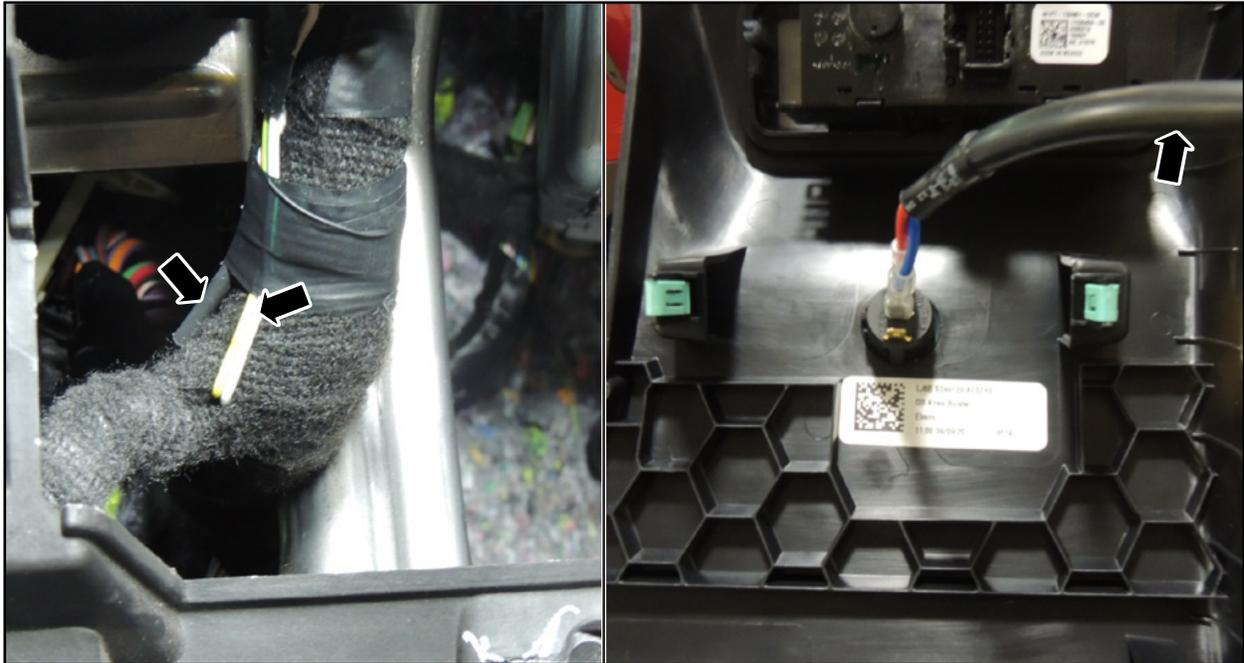

FIGURE 50
50. Connect the light bar switch to the instrument panel wiring. See Figure 50.